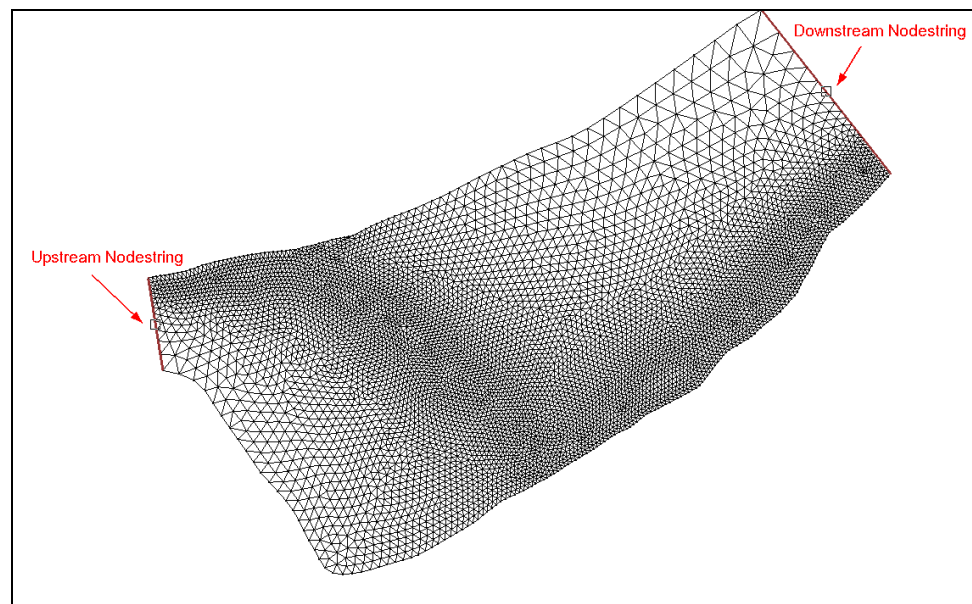

Figure 4 Nodestring locations
2. Using the **Create Nodestring**  tool, create nodestrings at the upstream and downstream boundaries as shown in Figure 4. Include all nodes along the boundary in the nodestrings by holding down the *Shift* key while creating it. Create the nodestring from right to left as if facing downstream.